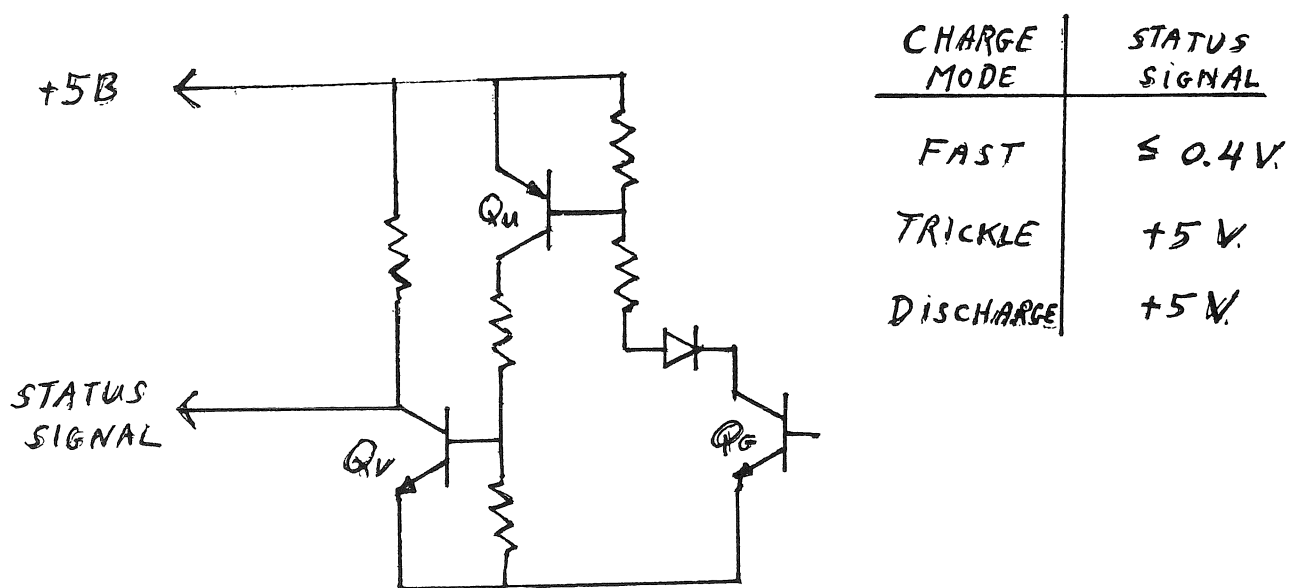

FIGURE 3-43
3.5.3.5 Charge Rate Signal - The charge status signal is shown in Fig. 3-43. The purpose of this signal is to tell the H777 what charge mode the battery is in. When the battery is in the fast-charge mode, Q(G), Q(U) and Q(V) are all ON and the signal is low (\approx or $< 0.4V$). When the battery is being trickle-charged, or when it is discharging, the signal is high (+5V). This was designed to be compatible with battery monitor circuitry in the H777.